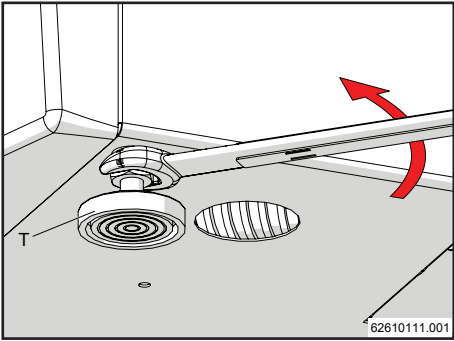
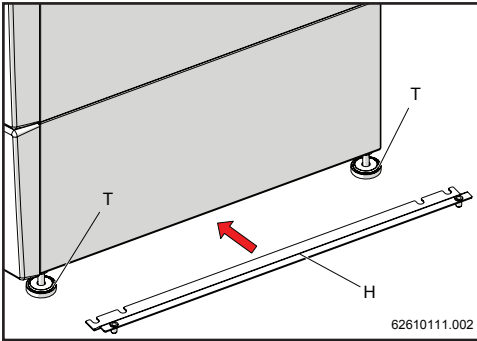

Figure 12-1
Figure 12-2
- 1.- Use a spanner to loosen the adjustable feet "T" on the appliance (figure 12-1), insert bracket "H" and re-tighten the adjustable feet "T" (figures 12-2 and 12-3). Repeat this procedure on the opposite side.